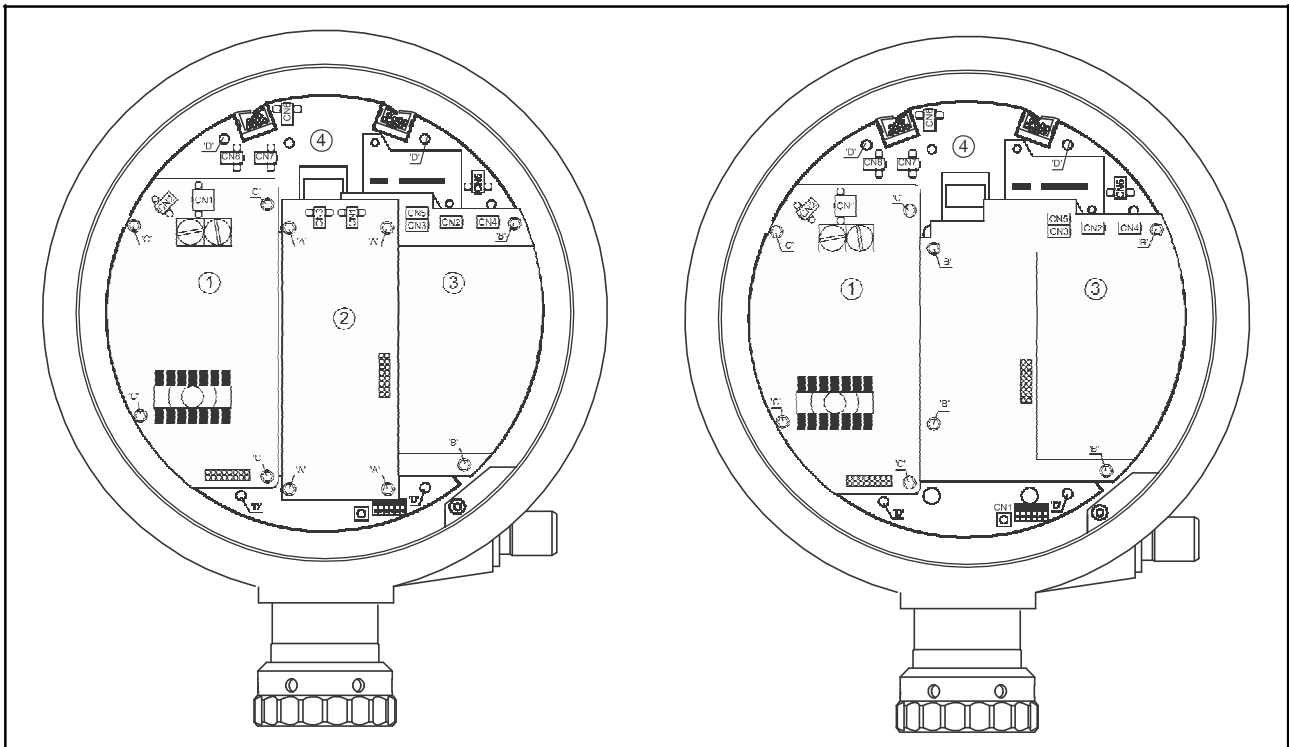

Figure 4.3 Removing of boards for changing software (EPROM's)
Refer to figure 4.3 and to Appendix C.
Loosen the 4 Allen head screws, marked "A" in figure 4.3 (use Allen head key 2.5 mm).
Loosen the 4 Allen head screws, marked "B" in figure 4.3 (use Allen head key 2.5 mm).
Loosen the 4 Allen head screws, marked "C" in figure 4.3 (use Allen head key 2.5 mm).
Loosen the 4 Allen head screws, marked "D" in figure 4.3 (use Allen head key 3 mm).